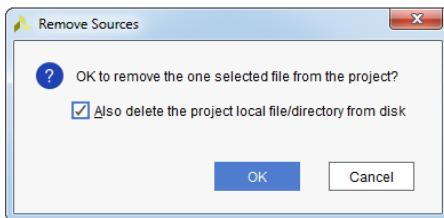

Figure 2.21: Remove Sources dialog box
3. In the **Remove Sources** dialog box enable **Also delete the project local file/directory from disk** option, click **OK** and the file will be removed from the project, see Figure 2.21.